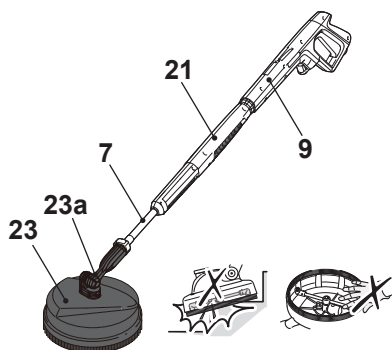

Fig. 12
4. Securely fit the short extension lance (21) by turning the sleeve (21b) clockwise (step 3).
5. Align and insert the tongues (7a) of the extension lance (7) into the grooves of the short extension lance (21) connection port (step 4).
6. Securely fit the extension lance (7) by turning it clockwise to lock it in place (step 5). Ensure the arrow on the short extension lance aligns with the arrow on the extension lance.
7. Attach the patio brush (23) onto the extension lance (7) (Fig. 12).